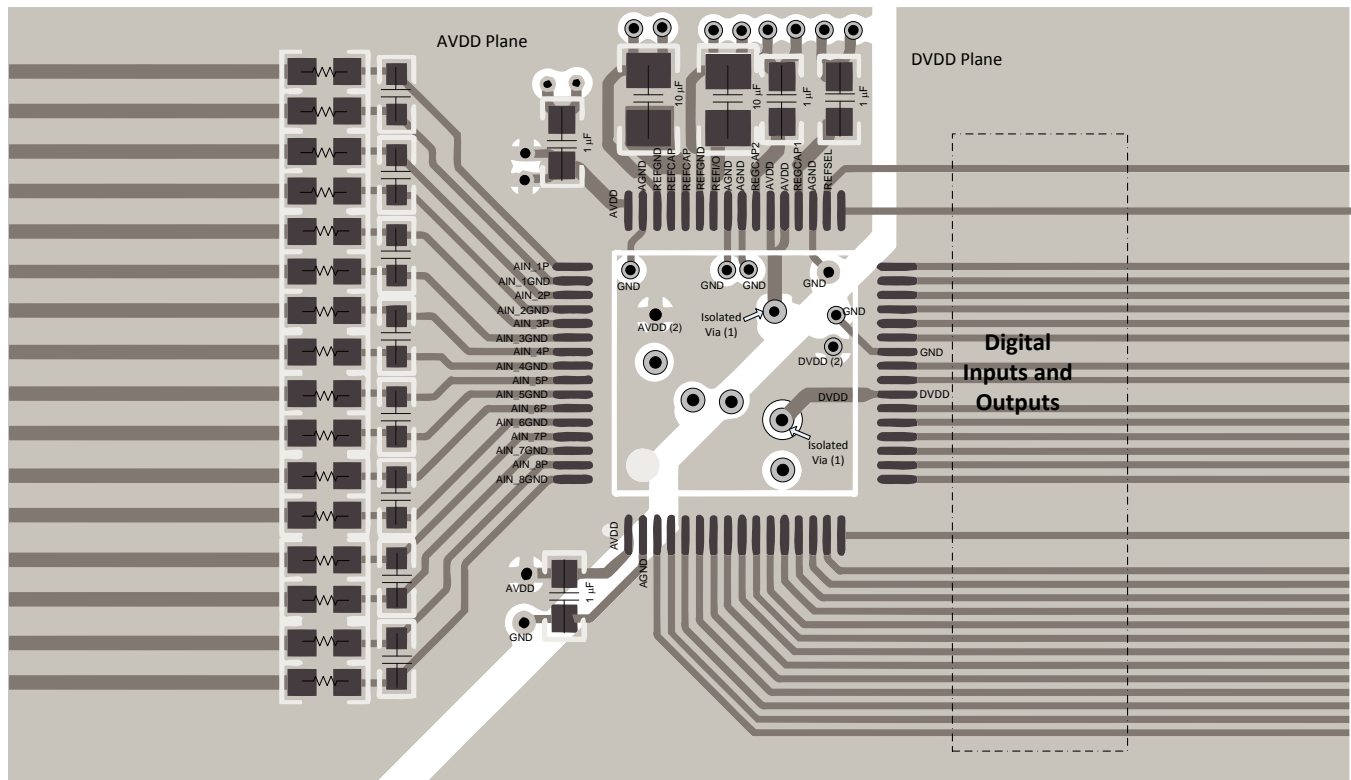
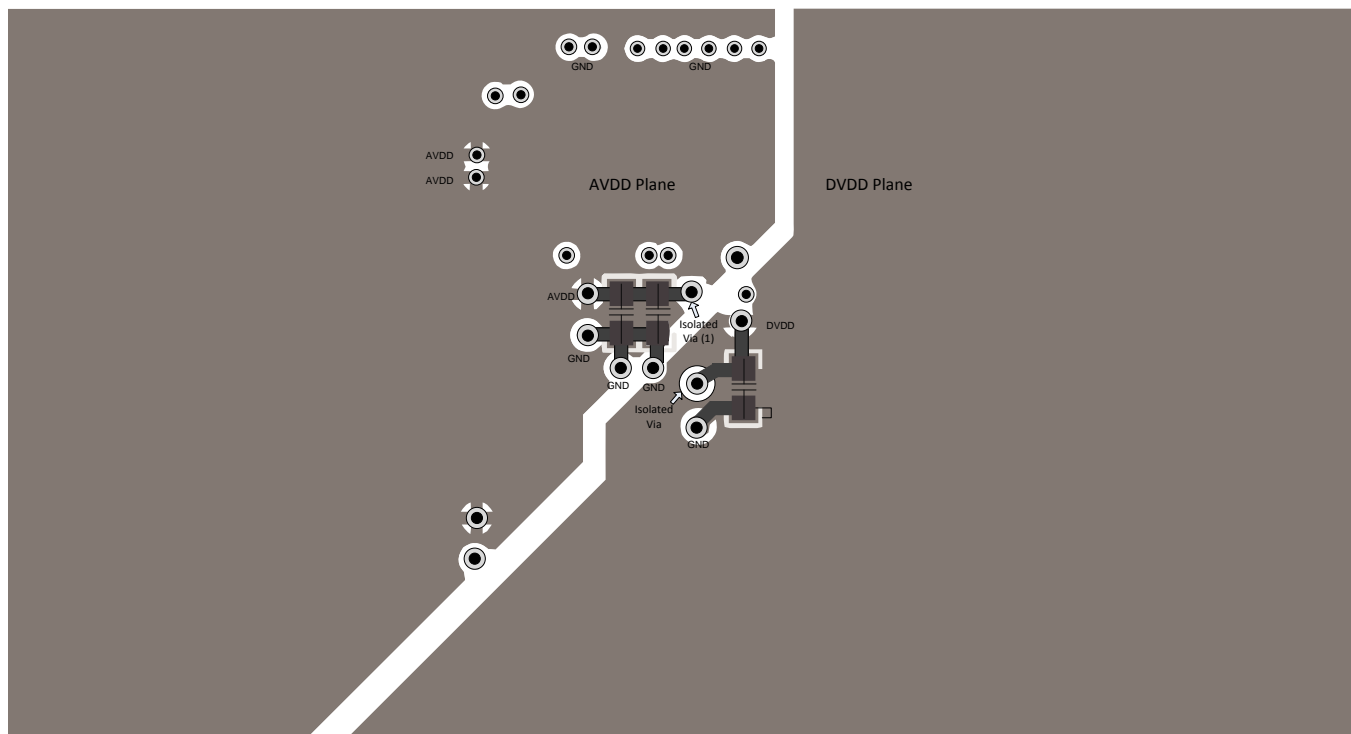

Figure 90. Top Layer Layout
Figure 91. Bottom Layer Layout
Figure 90 and Figure 91 illustrate a PCB layout example for the ADS8588S, ADS8586S, and ADS8584S.
- Power sources to the ADS8588S must be clean and well-bypassed. As a result of dynamic currents during conversion, each AVDD must have a decoupling capacitor to keep the supply voltage stable. Use wide traces or a dedicated analog supply plane to minimize trace inductance and reduce glitches. Using a 1- μ F, X7R-grade, 0603-size ceramic capacitor is recommended in close proximity to each analog (AVDD) supply pins. Bypass capacitors for AVDD pins 1 and 48 are located on the top layer; see Figure 90. AVDD supply pins 37 and 38 are connected to bypass capacitors in the bottom layer using an isolated via (1); see Figure 91. A separate via (2) is used to connect the bypass capacitor to the AVDD plane.
- For decoupling the digital (DVDD) supply pin, a 1- μ F, X7R-grade, 0603-size ceramic capacitor is recommended. The DVDD bypass capacitor is located in the bottom layer; see Figure 91.
Figure 90 and Figure 91 illustrate a recommended layout for the ADS8588S along with proper decoupling and reference capacitor placement and connections.